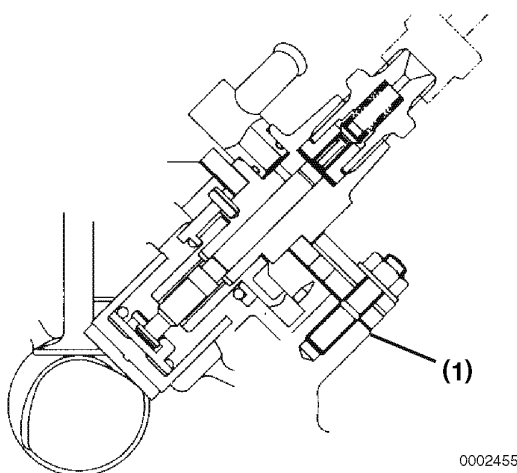

Figure 9-13
7. Install the calculated shim(s) (**Figure 9-13, (1)**) over the injection pump mounting studs and onto the crankcase mounting surface.